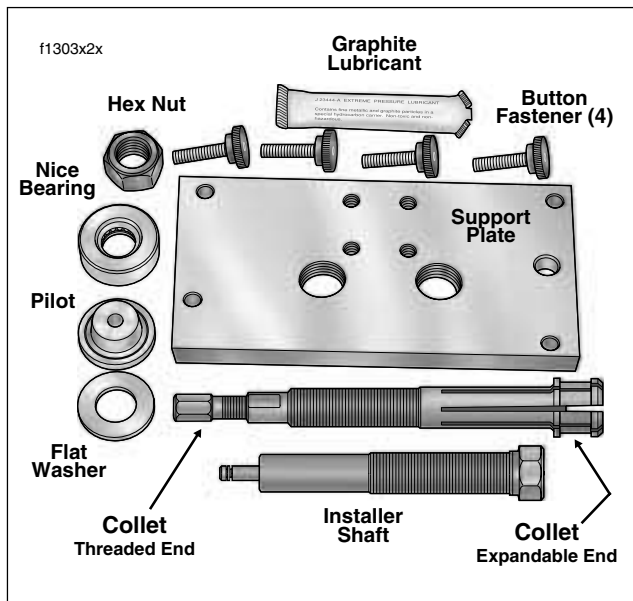

Figure 3-116. Camshaft Needle Bearing Remover/Installer (HD-42325A)
2. Remove four button fasteners from threaded holes in support plate, if installed. See Figure 3-116.